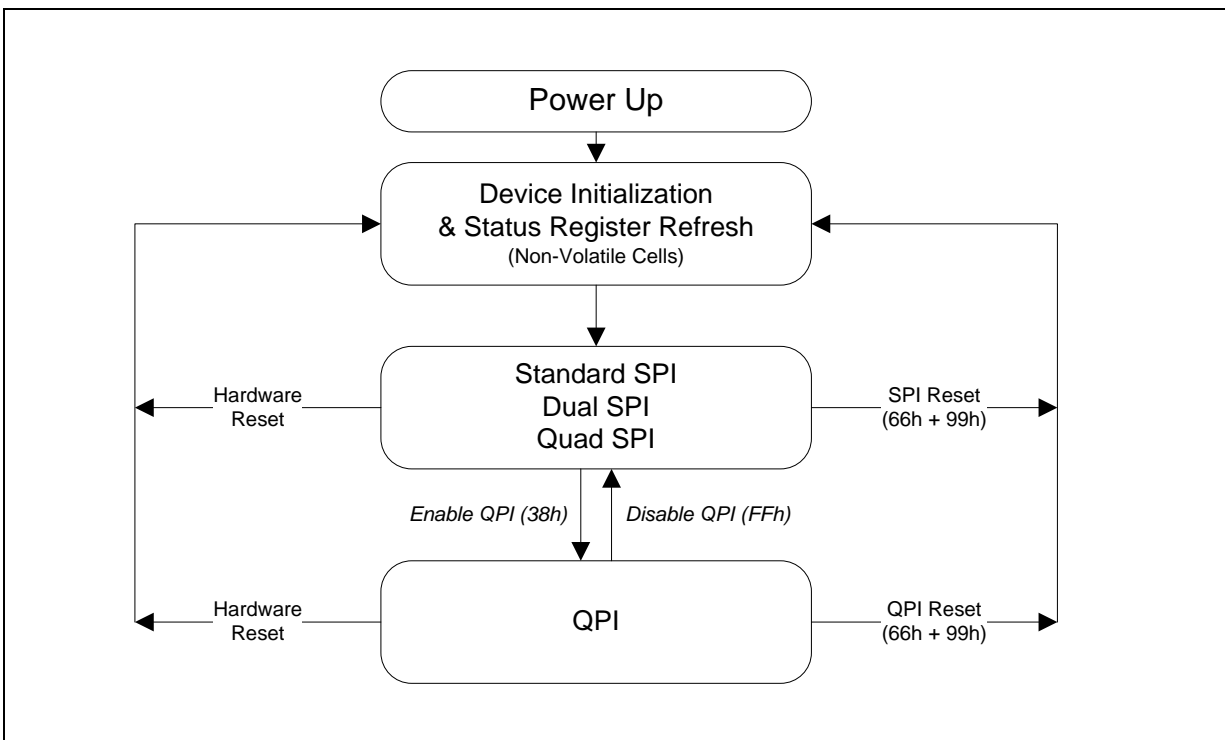

Figure 3. W25Q32JV Serial Flash Memory Operation Diagram
The W25Q32JV supports Quad Peripheral Interface (QPI) operations only when the device is switched from Standard/Dual/Quad SPI mode to QPI mode using the “Enter QPI (38h)” instruction. The typical SPI protocol requires that the byte-long instruction code being shifted into the device only via DI pin in eight serial clocks. The QPI mode utilizes all four IO pins to input the instruction code, thus only two serial clocks are required. This can significantly reduce the SPI instruction overhead and improve system performance in an XIP environment. Standard/Dual/Quad SPI mode and QPI mode are exclusive. Only one mode can be active at any given time. “Enter QPI (38h)” and “Exit QPI (FFh)” instructions are used to switch between these two modes. Upon power-up or after a software reset using “Reset (99h)” instruction, the default state of the device is Standard/Dual/Quad SPI mode. To enable QPI mode, the non-volatile Quad Enable bit (QE) in Status Register-2 is required to be set. When using QPI instructions, the DI and DO pins become bidirectional IO0 and IO1, and the /WP and /HOLD pins become IO2 and IO3 respectively. See Figure 3 for the device operation modes.